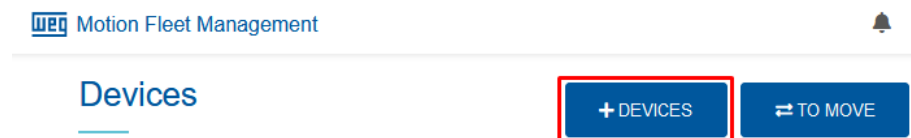

Figure 3.4: Adding a device
- Step 3** Click on “+DEVICES” button, as shown in Figure 3.4.